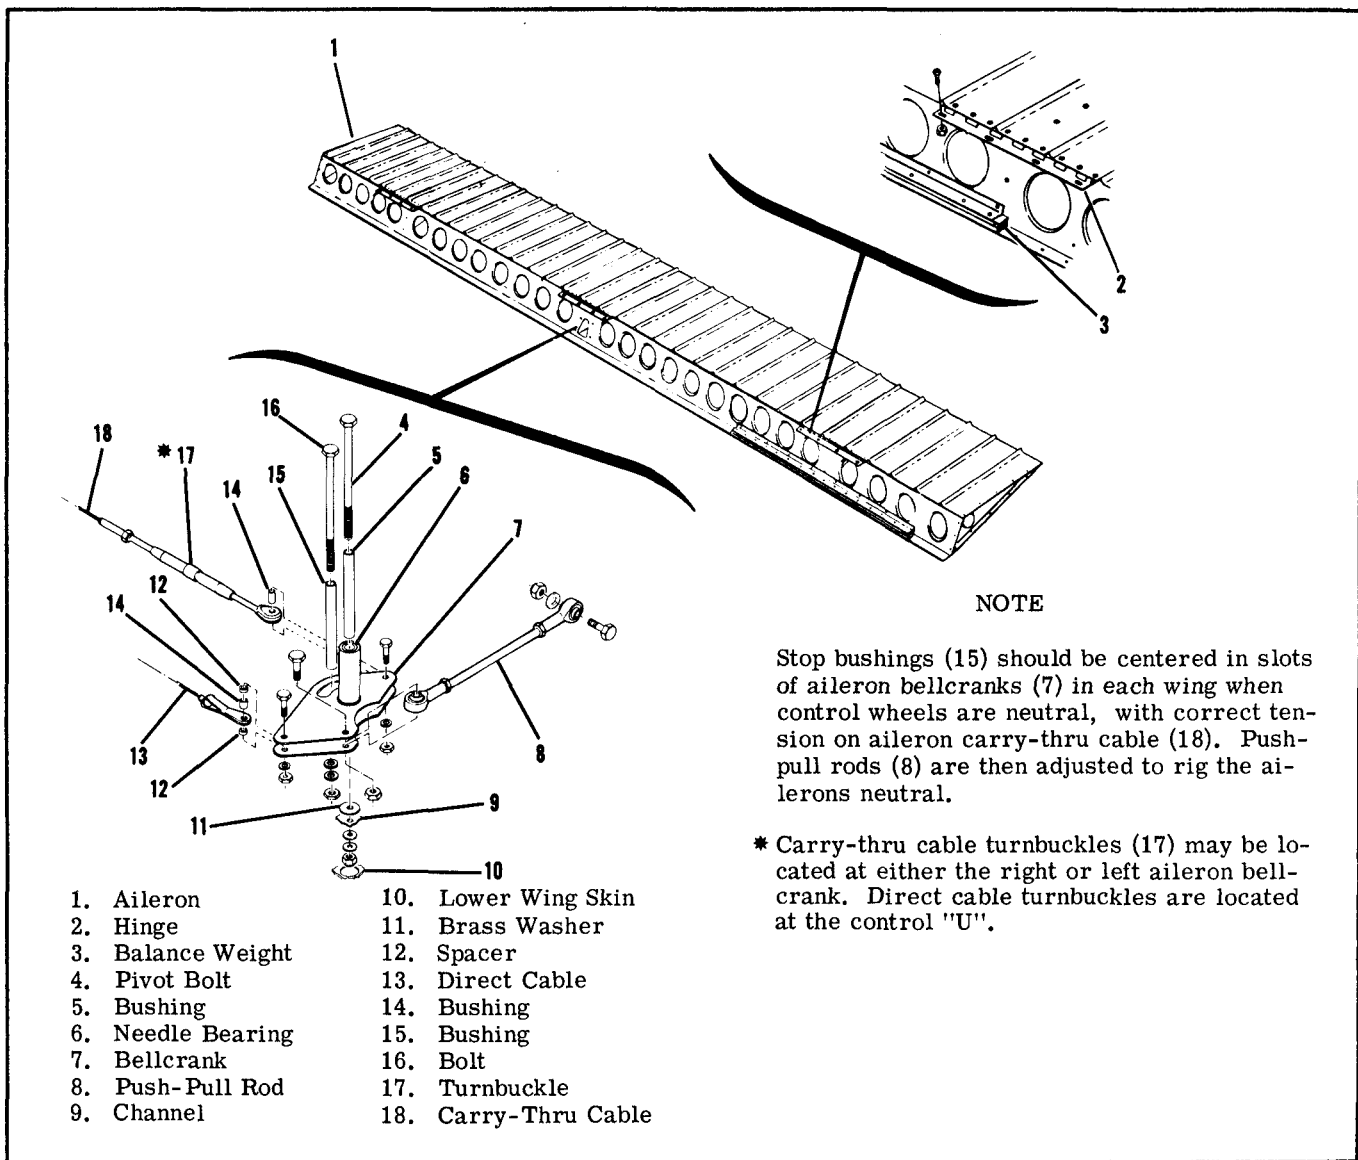

Figure 6-3. Aileron Installation
6-8. AILERON BELLCRANK. (Refer to figure 6-3.)
6-14. AILERONS. (Refer to figure 6-3.)
e. Adjust direct cable turnbuckles (17) below control "U" and single carry-thru turnbuckle (index 17, figure 6-3) at aileron bellcrank (index 7, figure 6-3) so bellcrank stop bushings (index 15, figure 6-3) are centered in both bellcrank slots with 40 ± 10 pounds tension on aileron carry-thru cable (index 18, figure 6-3). Disregard tension on direct cables, which will be different than tension on carry-thru cable.
f. Adjust push-pull rods (index 8, figure 6-3) at each aileron until ailerons are neutral with reference to trailing edge of wing flaps. Be sure wing flaps are fully up when making this adjustment.